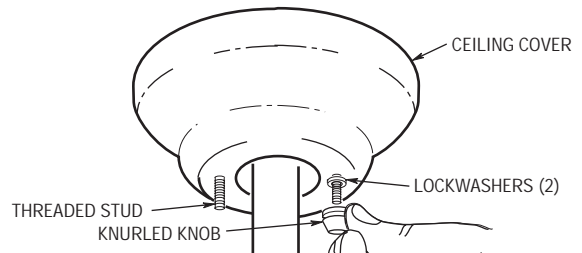

Figure 13
- 4. Lift the ceiling cover up to the threaded studs and turn until studs protrude through the holes in the ceiling cover (Figure 13).
- 5. Secure the ceiling cover in place by sliding lock-washers over the threaded studs and installing the two knurled knobs (supplied). (Figure 13.) Tighten the knurled knobs securely until the ceiling cover fits snugly against the ceiling and the hole in the ceiling cover is clear of the downrod. Your fan is now wired to be turned on and off from the fan switch.